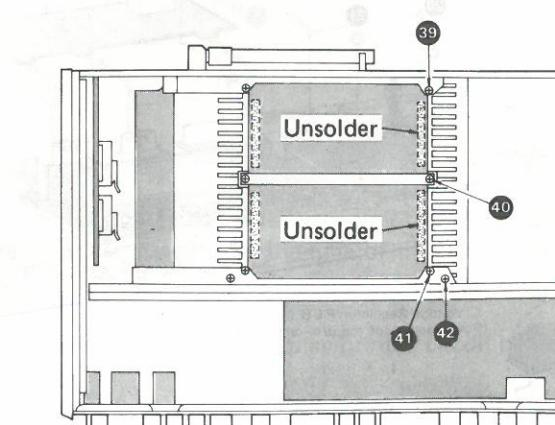

Fig. 9
- Remove the 4 setscrews (Fig. 9 : 39 ~ 42) of the heat sink.
- Unsolder the power transistor. (Fig. 9)